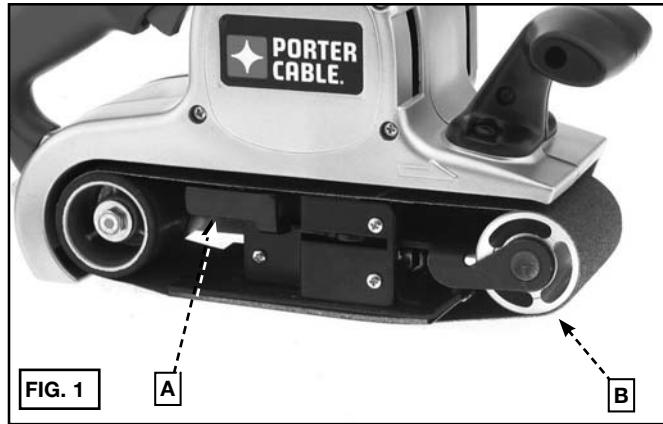

FIG. 1
- Pull the lever (A) Fig. 1 out toward the front of the machine to retract the idler pulley (B) and release the tension on the abrasive belt.
- Engage the front pulley by pushing the lever (A) Fig. 1 back to its original position.